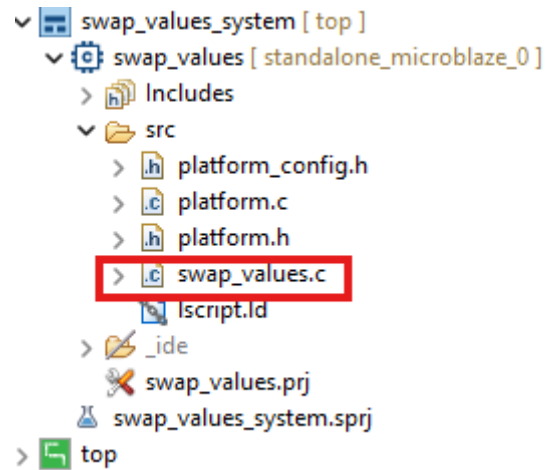

Figure 8
1. As shown in Figure 8, Create a new application with the name **swap_values** and rename **helloworld.c** to **swap_values.c**.